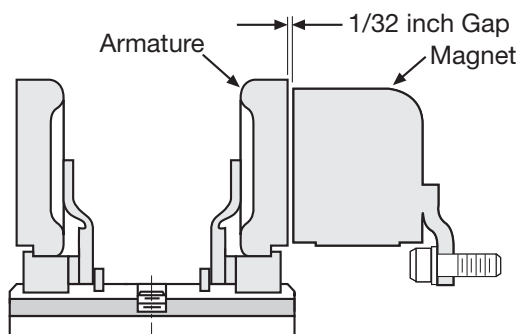

Figure 7
- Position the assembly so that the face of the armature is about 1/32-inch from the magnet face. (Figure 7)